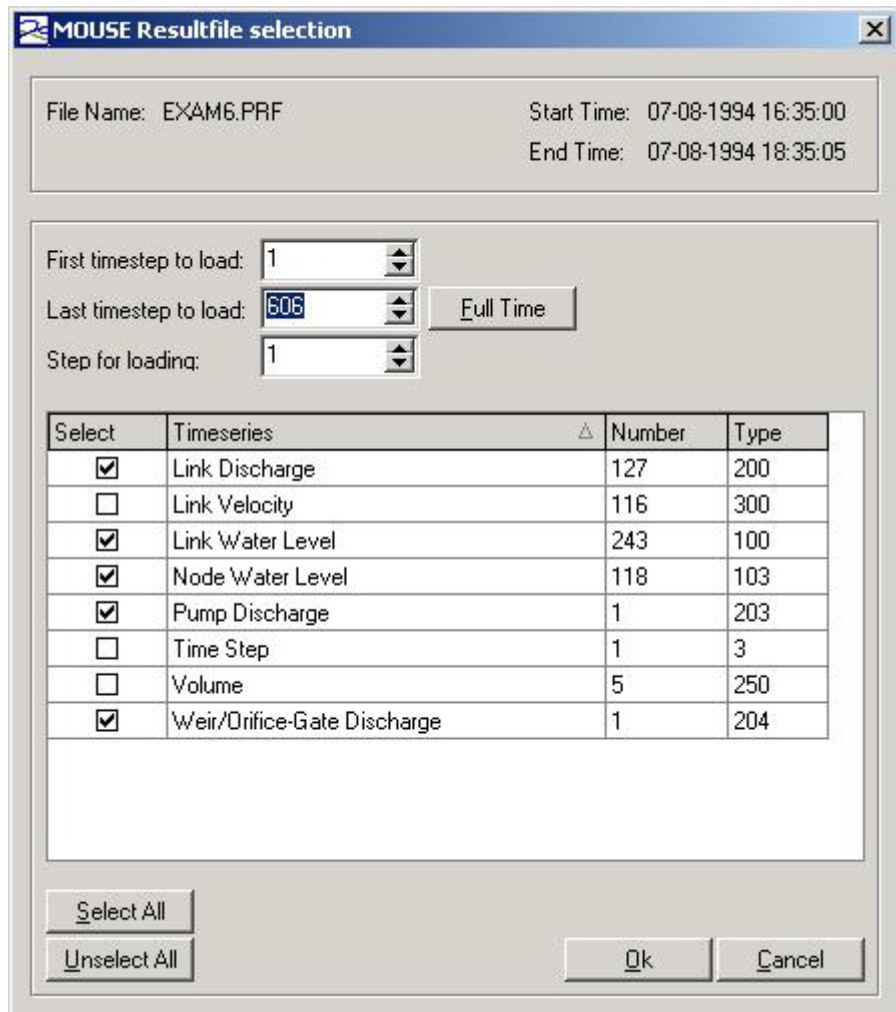

Figure 23.2 Example of the result file selection dialog
- A dialog with choices of which data to load from the result then appears. The items displayed are dependent on the type of result file. An example is shown in Figure 23.2.